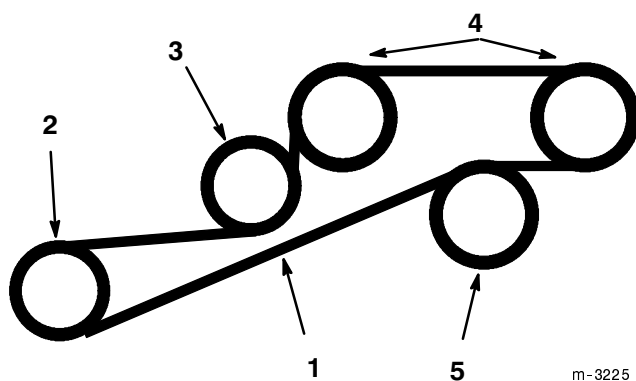

Figure 84
2. Push spring loaded idler down and remove traction belt from the engine, fixed idler and hydro pump pulleys (Fig. 84). Remove belt over clutch.
3. Install new belt over clutch and around engine, fixed idler and hydro pump pulleys (Fig. 84).
4. Push spring loaded idler down and align below traction belt. Release pressure on spring loaded idler (Fig. 84).